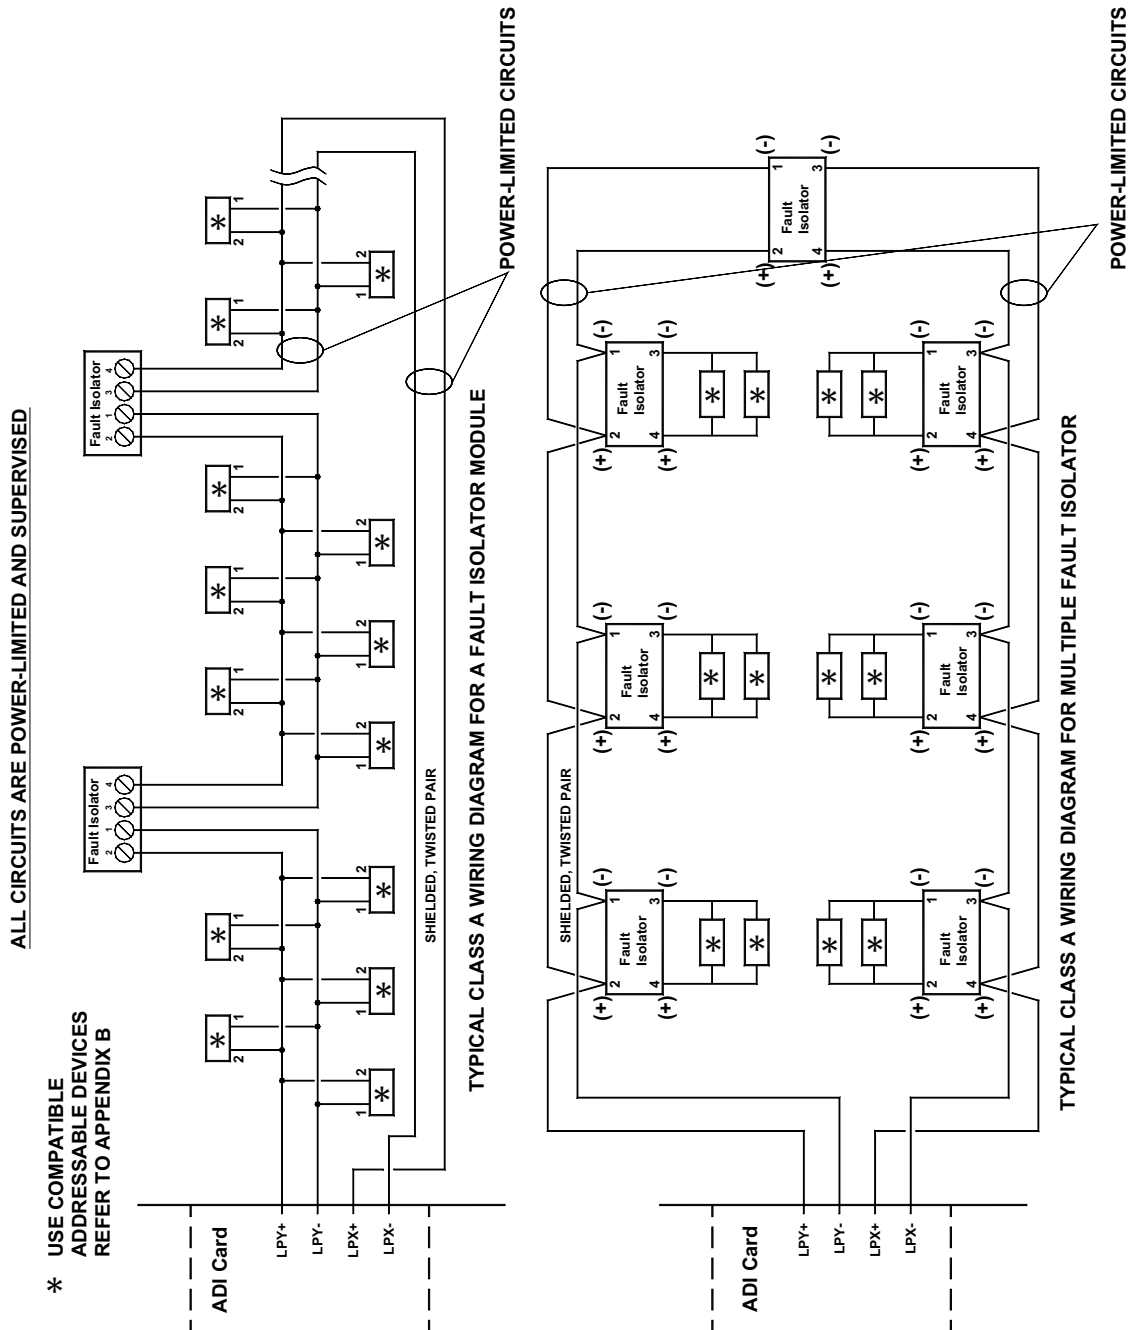

Figure 50: Typical Isolator Module Wiring - Using EOL Relay for Line Supervision
11. If multiple zones are configured in a system , each one should have its own power supply and style 7 wiring should be used for the SLC. Isolation should be provided between the zones as per Figure 50.